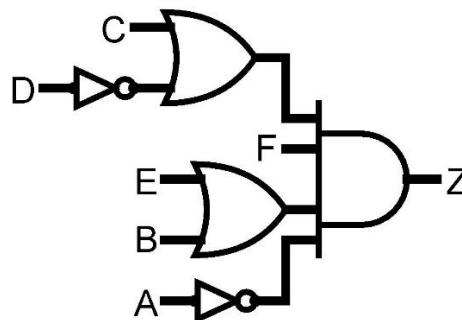

Figure 3(d)
- (d) An equivalent logic gate circuit of a PLC control system is shown in Figure 3(d). Construct the ladder logic diagram for the PLC control system shown in Figure 3(d). Also, provide the Boolean expression of output, Z. Inputs A, B, C, D, E and F are represented by Pushbuttons and output Z is represented by Pilot Light.